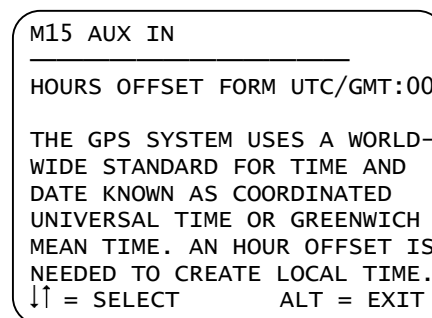

Figure 24. Auxiliary In menu
- 1) Press **3** to advance to the Auxiliary In menu (Figure 24).